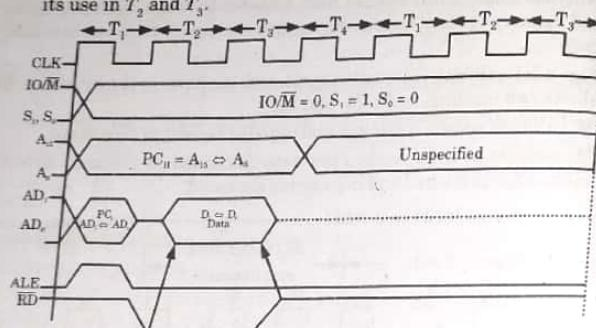
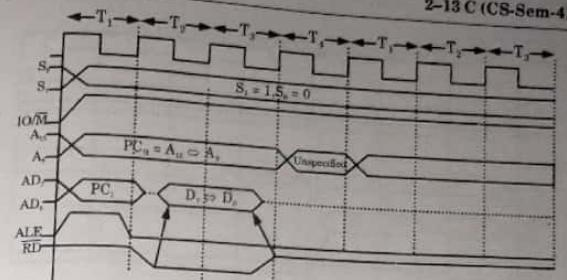

Fig. 2.8.1. Memory read timing diagram.
Fig. 2.8.2. I/O read timing diagram.
2. The timing diagram for $\overline{IO/M}$ read are shown in Fig. 2.8.1 and Fig. 2.8.2. $A_{15} \leftrightarrow A_8$ remains valid in T_1, T_2 and T_3 i.e., duration of the bus cycle, but $AD_7 \leftrightarrow AD_0$ remains valid only in T_1 .